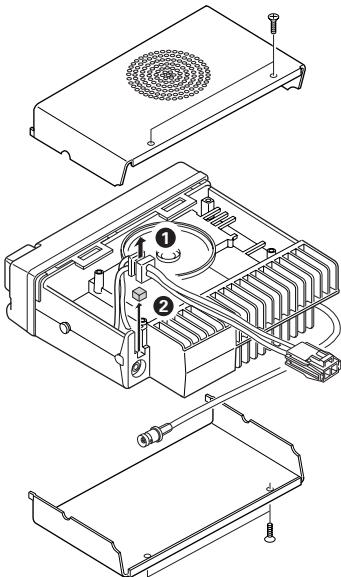

Fig. 1
1. Remove the upper and lower halves of the transceiver case, and lift the DC cord bushing (①) from the chassis.
2. Remove the pad as shown in Figure 1 (②).
3. Insert the KCT-19 cable (③) into the chassis (④). The wire harness band (⑤) must be inside the chassis.
4. Replace the DC cord bushing (⑥).